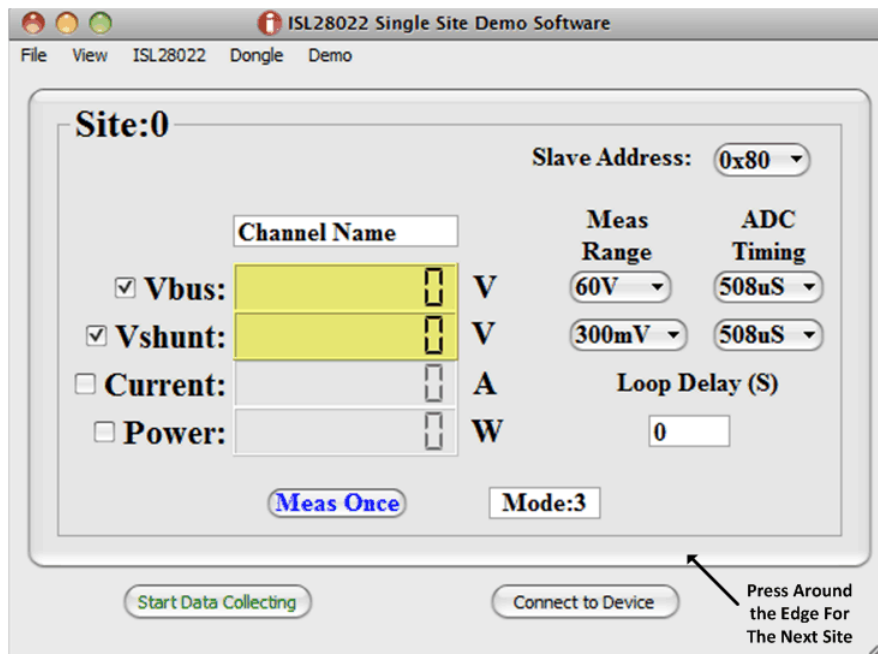

FIGURE 15. PICTURE OF THE MAIN GUI WITH AT LEAST ONE ISL28022 EVALUATION BOARD CONNECTED TO THE DONGLE BOARD
- Connect the software to the Dongle by pressing the “Connect to Device” button at the bottom right of the software window. If the connection is successful, the text on the button will be red and read “Disconnect Device”. All buttons on the front panel of the GUI will be enabled. The GUI should look similar to Figure 15. When the software connects to the microcontroller, the software scans for all the acceptable ISL28022 slave addresses to determine if the device is connected to the dongle.